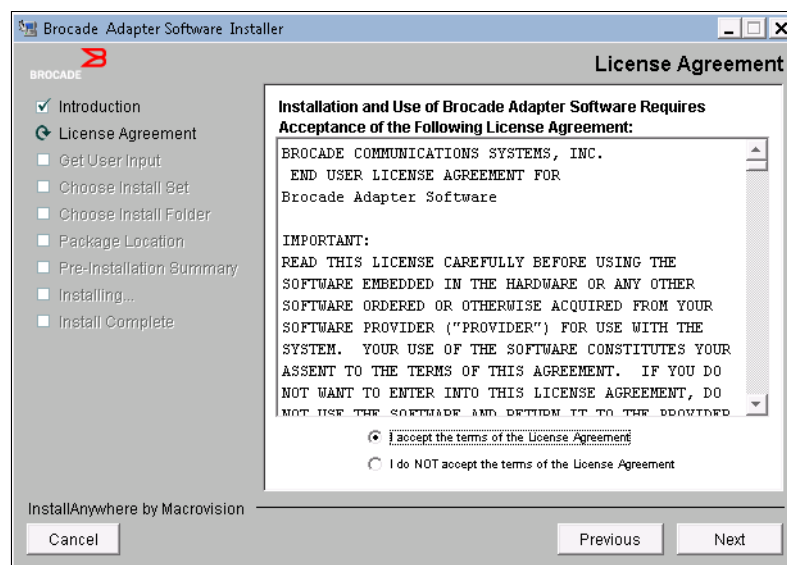

Figure 7-95 The license agreement panel
3. In the License Agreement panel (Figure 7-95), read the license agreement, and then click **Next** to accept it.